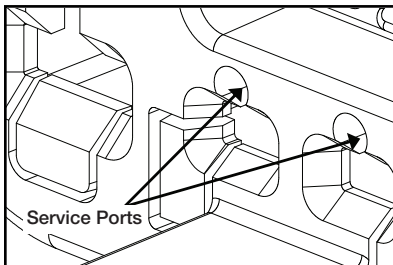

FIGURE 7
- With the TPA in the “pre-lock” position, insert the tip of the Service Tool into the service port of the terminal in be removed/replaced (Figure 7). *NOTE: Care should be used so as to not insert the service tool into the terminal opening.*